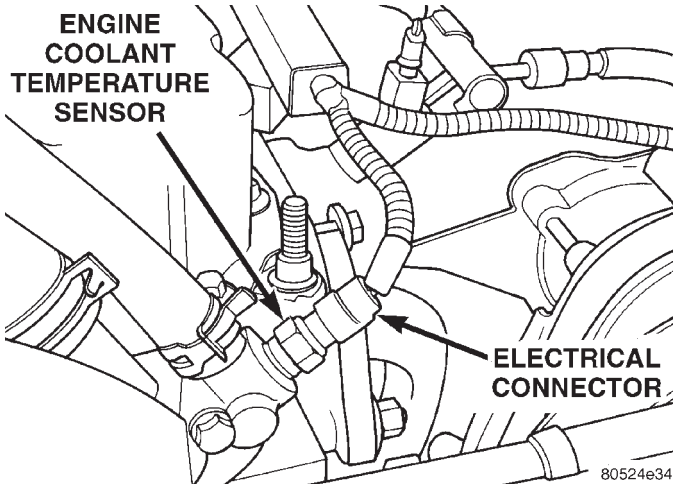

Fig. 41 Engine Coolant Temp. Sensor—4.0L Shown
(19) Verify that wire harness connector is firmly connected to the engine coolant temperature sensor (Fig. 41).